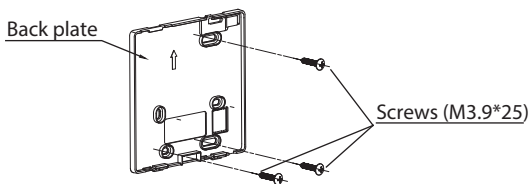

Fig 3-3
- For exposed mounting, fasten the back plate on the wall with the 3 screws (M3.9\*25) and plugs. (Fig.3-3)